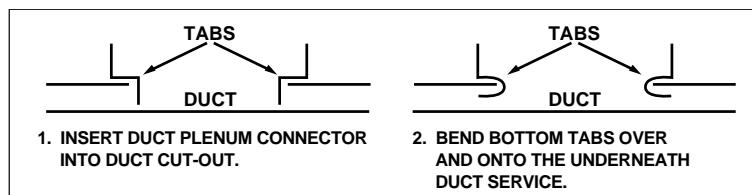

Figure 10. Installation of Duct Connector
- c. Bend bottom tabs under and up tightly against the supply air duct (See Figure 10).